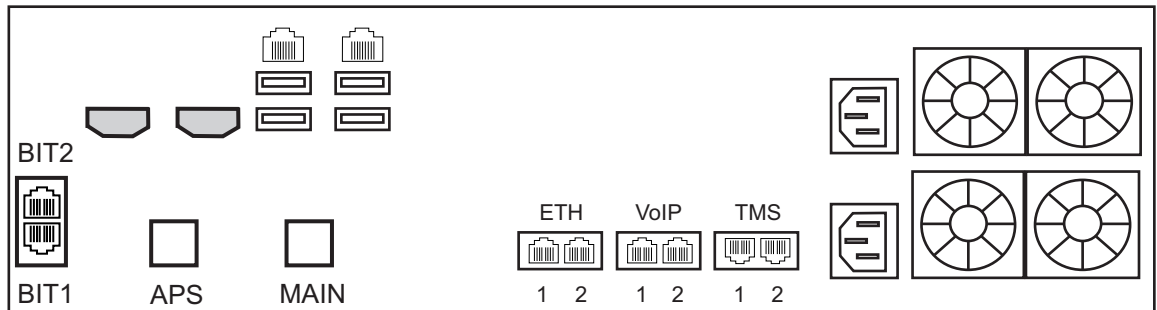

Figure 2.8 Optical Interface to the PSTN
A TMG5800, with one main and one backup OC3 or STM-1 port enables connection to OC3/STM-1 lines. See figure 2.8 on page 18. Refer to table 2.2 on page 18 for a listing of optical interfaces. The default OC3/STM-1 connection is SMF, intermediate reach, (SFP-OC3-IR1) 1310 nm with LC type connectors.
1. Connect a fiber optic cable between the Main port and OC3/STM-1 line, as shown in figure 2.8 on page 18.